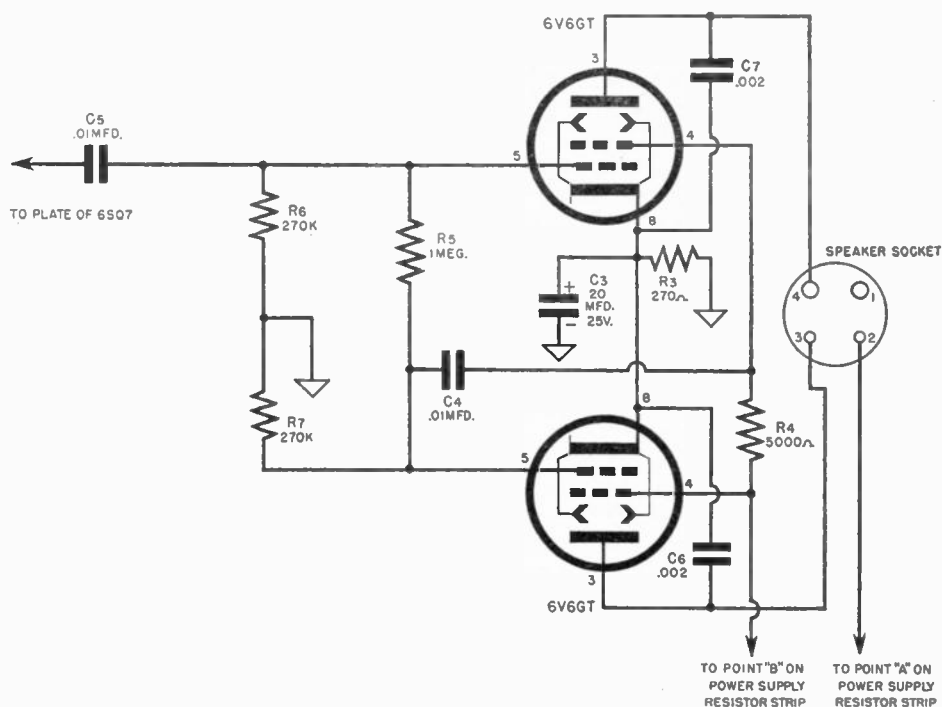

Fig. 2-33. Connections to the 4-pin speaker socket.
c) Output Circuit. The output stage wiring is shown in Figure 2-33. Wire exactly as shown in the drawing, being careful to connect C4 between the screen of the *upper* 6V6GT and the grid of the *lower* one. Observe that resistor R4 is between the screen of the *upper* tube and the B supply, while the screen of the lower tube is connected directly to B supply. These precautions must be observed, otherwise the stage will not function properly. Figure 2-33 shows the connections to the 4-pin speaker socket, while 2-34 illustrates the wiring of the corresponding plug.